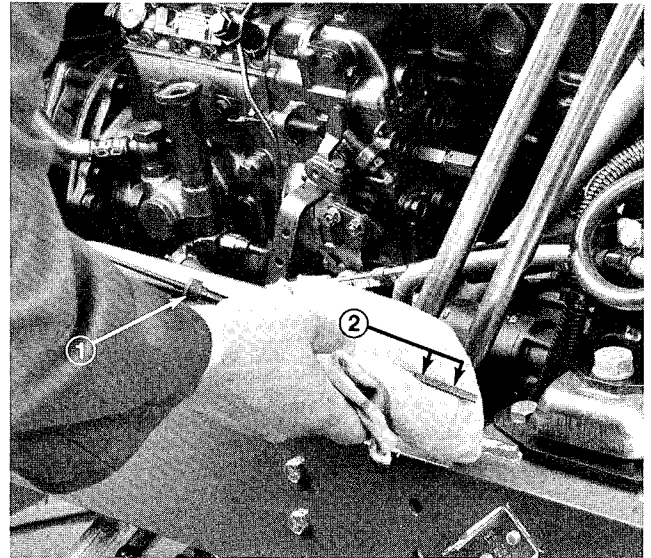
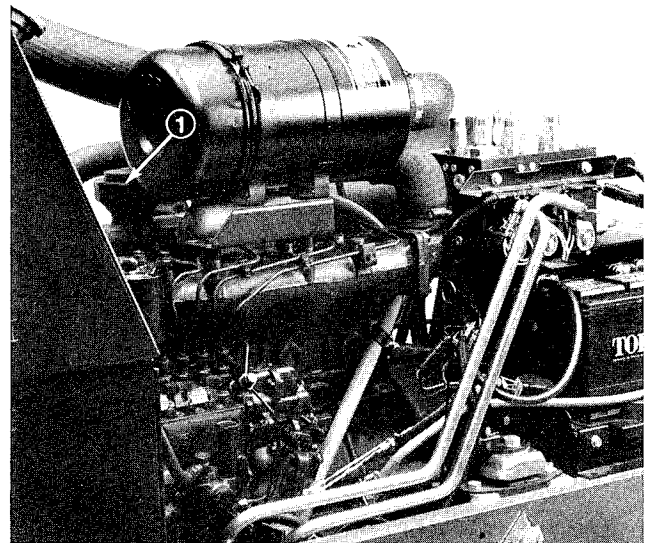

Figure 33
Figure 34
2. Remove dipstick, wipe with clean rag (Fig. 33) and fully re-insert in tube. Remove from tube and check oil level. Level should be between the marks on the dipstick. If level is low, remove filler cap (Fig. 34). Add oil until level is to top mark on dipstick (Fig. 33). **DO NOT OVERFILL.**